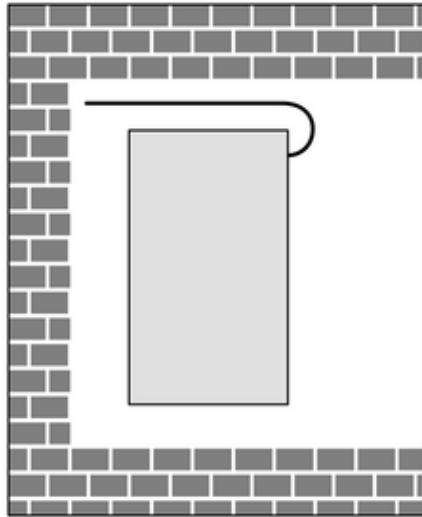

Figure 4: Installation in appliance box
- i** Lay the antenna stretched out freely if possible(Figure 4).